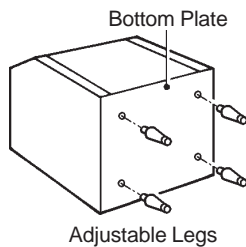

Fig. 2
- 1) Fully screw in the four legs provided (bin accessory) into the Storage Bin underside. See Fig. 2.